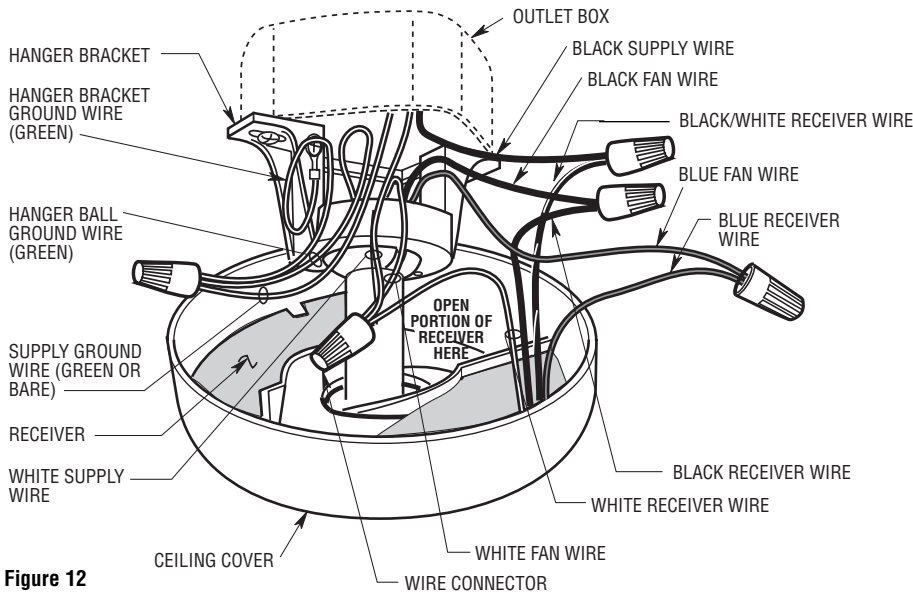

Figure 12
- 1. Position the receiver into the ceiling cover as shown in Figure 12. Place the antenna wire on top of the receiver.
- 2. Refer to Figures 12 and 13 to connect the receiver wires to the supply wires and the fan motor wires using the wire connectors supplied with the fan as follows:
- a. Connect the green grounding lead from the hanger ball and the green grounding lead from the hanger bracket to the grounding conductor of supply (this may be a bare wire or wire with green colored insulation). Securely connect wires with wire connectors supplied (Figure 12).